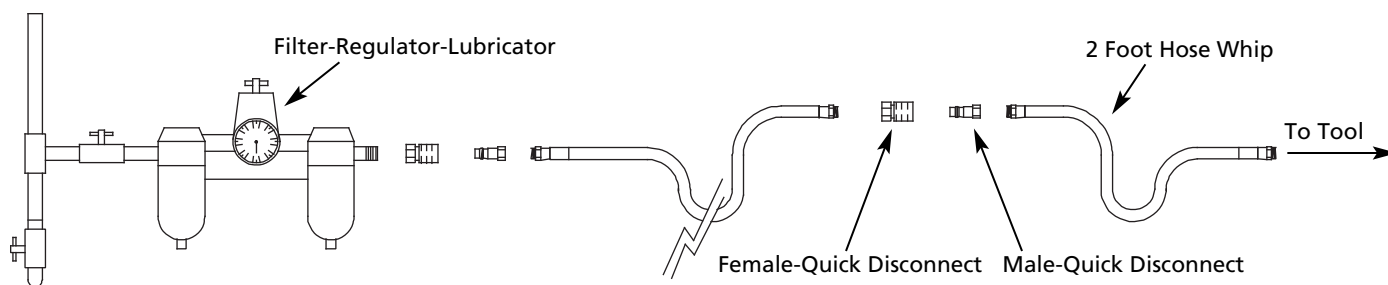

Figure 1 – Air Supply Line
Refer to Figures 1, 2 and 3.
Refer to Figure 1.
6. A filter-regulator-lubricator system is required and should be located as close to tool as possible (see Figure 1). A distance of less than 15 feet is recommended.